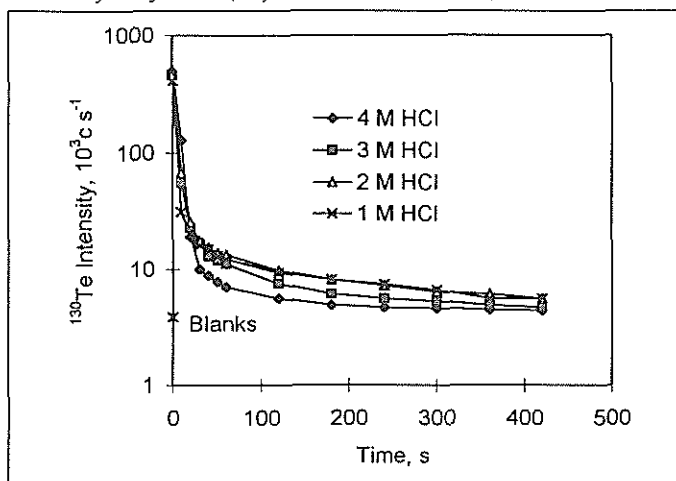

Figure 1. Effect of HCl molarity on wash-out time for 2 ppb Te
washout time between samples (see Fig. 1 for 2 ppb Te); and (2) to reduce mutual interferences (see Fig. 2 for effect of Se on 0.2 ppb Te in 2 and 4 M HCl). Note in Fig. 2 that suppression of the Te intensity becomes significant at concentrations of Se greater than 500 ppb but this is at a tolerable ratio of 2500:1 of interferent:analyte, a ratio which is abnormally high in nature. In analysis by HG-AAS, where one is forced to work at higher concentrations ranges (e.g. 1-50 ppb), 500 ppb of Se reduces the signal for 5 ppb of Te by 44 %, using the GSC instrumentation. Lack of sensitivity by this technique negates the possibility of diluting out this interference from Se. The worst mutual interference in HG-ICP-MS is caused by excess Bi: at concentrations of Bi in solution greater than 500 ppb there is a progressively severe depression, especially on analytes Te and Se. The probable mechanism of this interference is decomposition of thermally unstable bismuthine ( $\text{BiH}_3$ ) within the tubing and torch and subsequent capture of the analyte hydride (Fujita and Takada, 1986).